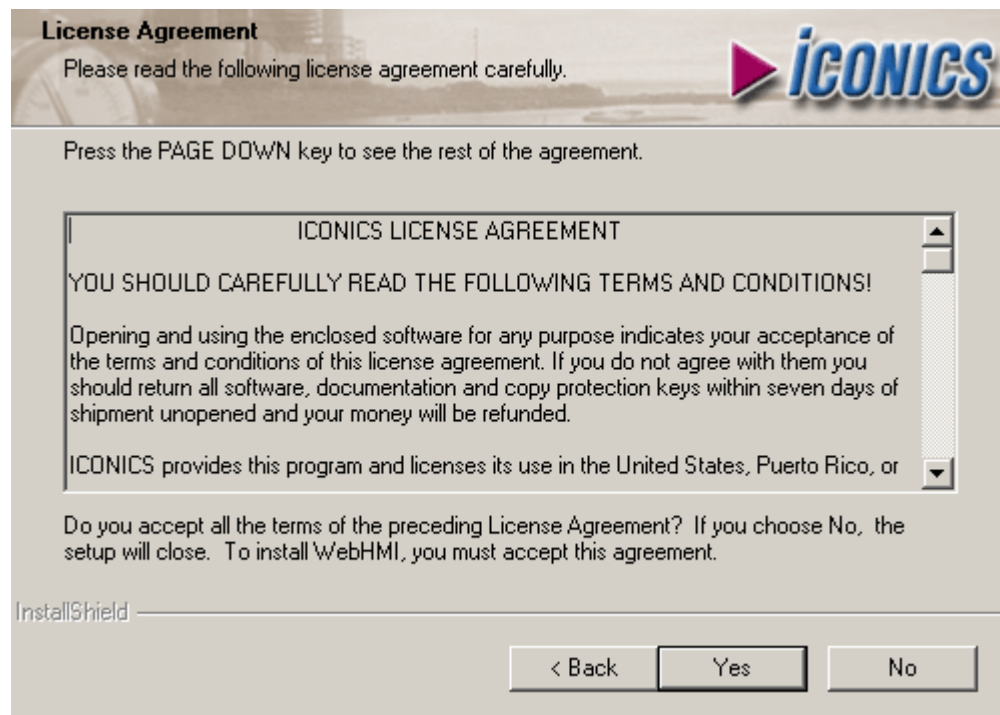

Figure 2.9. License Agreement
3. The **ICONICS WebHMI License Agreement** dialog box will appear, as shown in **Figure 2.9**. Carefully read the ICONICS License Agreement. If you agree with the terms and conditions, click **Yes** to continue.